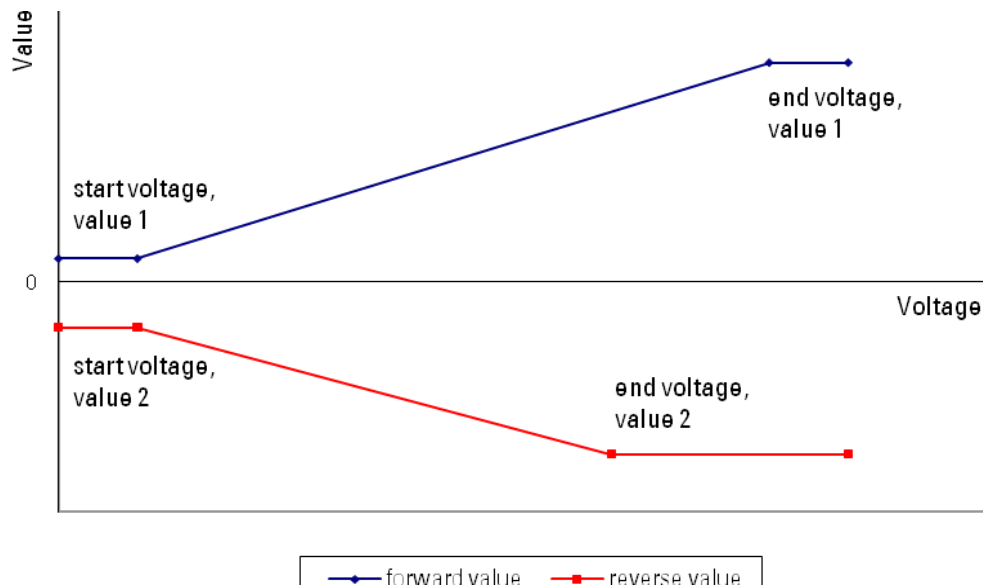
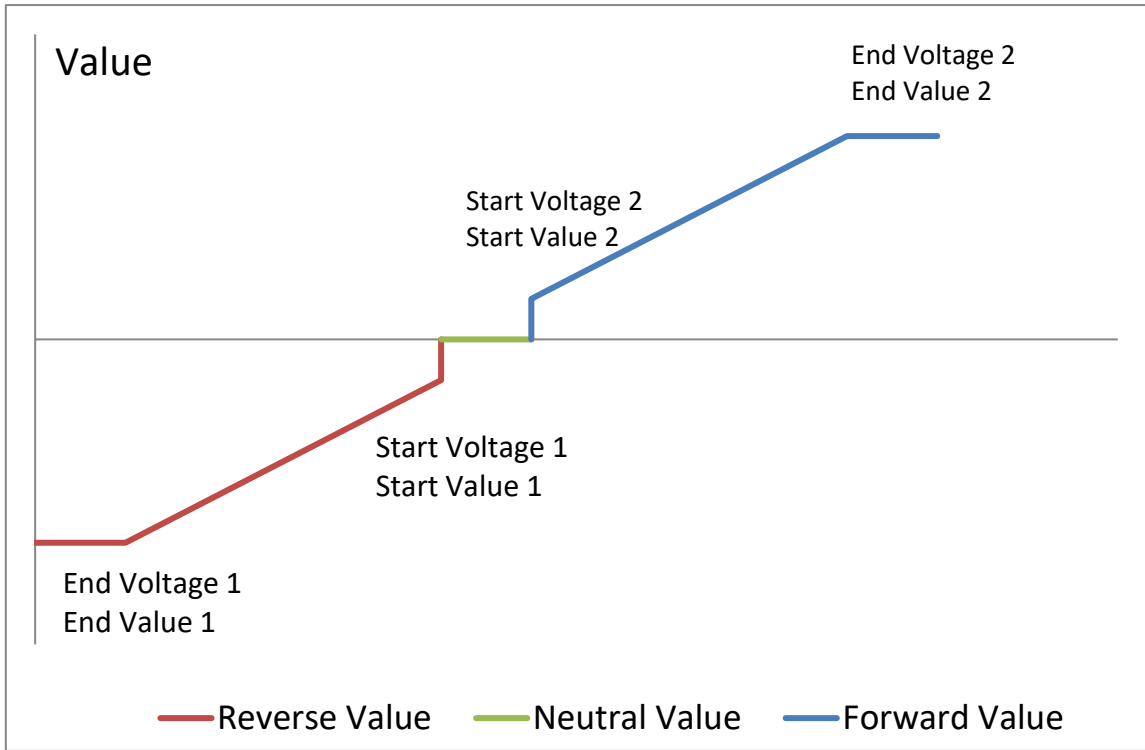

Figure 35 – Standard throttle configuration
Figure 36 – Directional throttle configuration
- Define the throttle voltage input: this is the relationship between the throttle voltage and the throttle value. Separate relationships can be specified for forward and reverse. Each relationship has two points, a start and an end. The points are configured differently for standard and directional throttles as shown in Figure 35 and Figure 36 respectively.